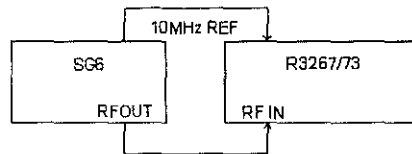

Figure 3-34 Setup of Simplified Performance Check
1. Connect equipment as shown Figure 3-34.